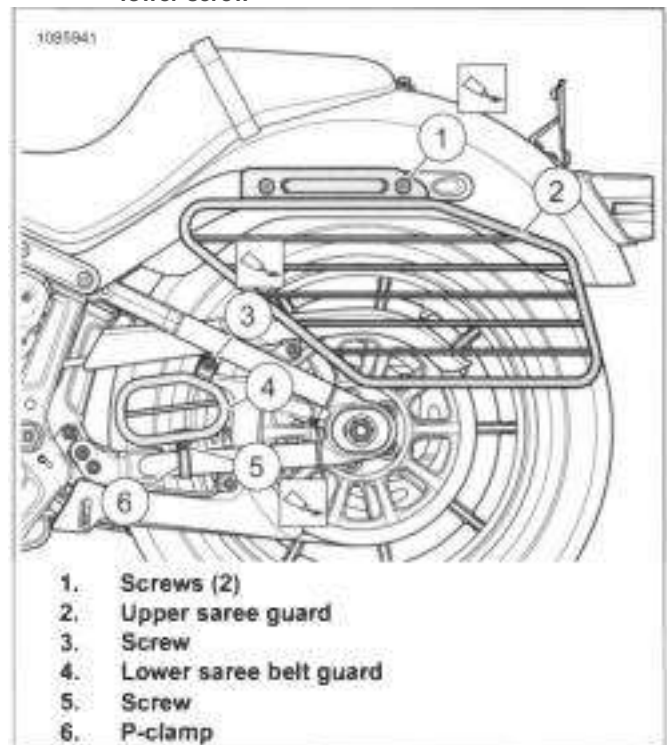

Figure 3-138. Saree Guards
1. See Figure 3-138 Remove upper saree guard.
- a. Remove screws (1) and washers.
- b. Remove guard (2).
- b. Remove guard (4).
1. See Figure 3-138. Install upper saree guard.
- a. Place upper saree guard (2) in position.
- b. Install threadlocker to screws (1).